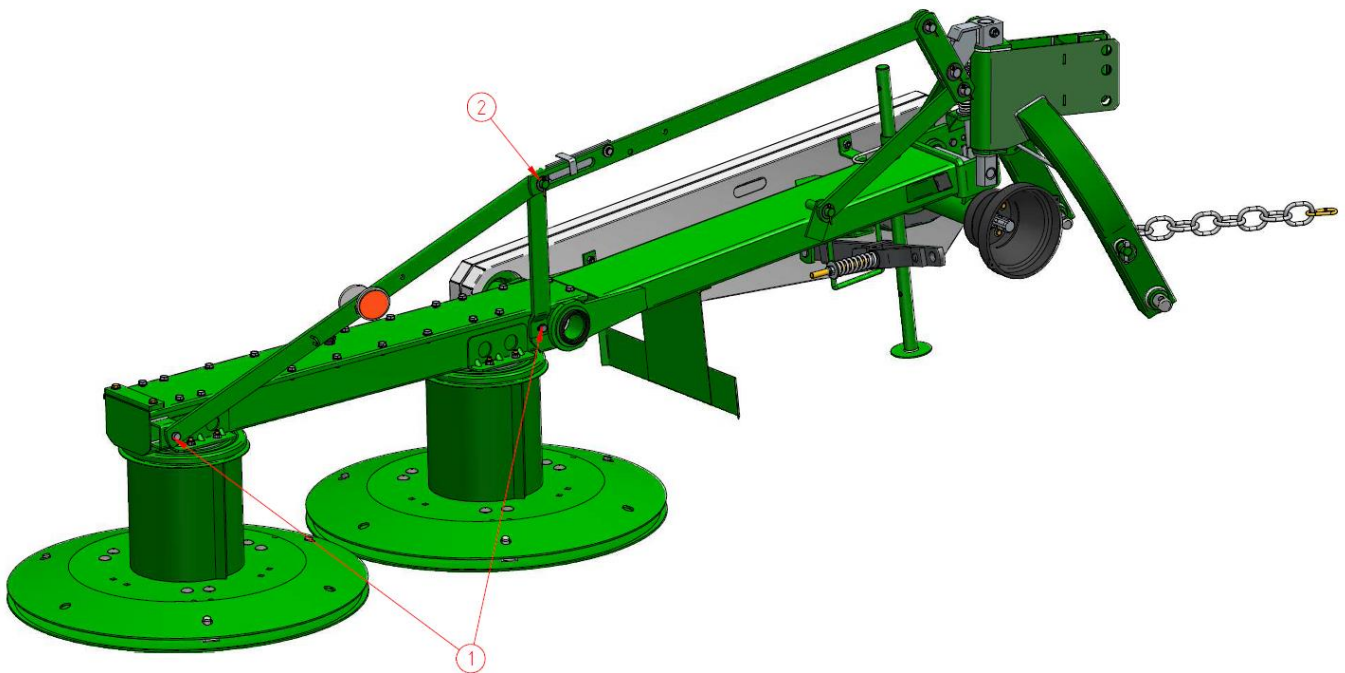

Figure 37 Cover assembly – STEP IX
- Disconnect the milled connector from the scythe-connector (in hydr. model: with hydraulic cylinder) (Fig. 37 item 2),
- Unscrew the mounting bolts fixing the scythe-connector to the main frame (Fig. 37, item 1) and the scythe-connector remove tie rod-knife from the machine.